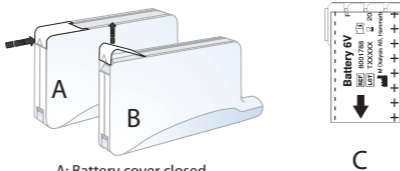

Fig. 2. A: Battery cover closed.
1. Open the battery cover by pressing with your thumb in the direction of the arrow (see Fig. 2 A,B).